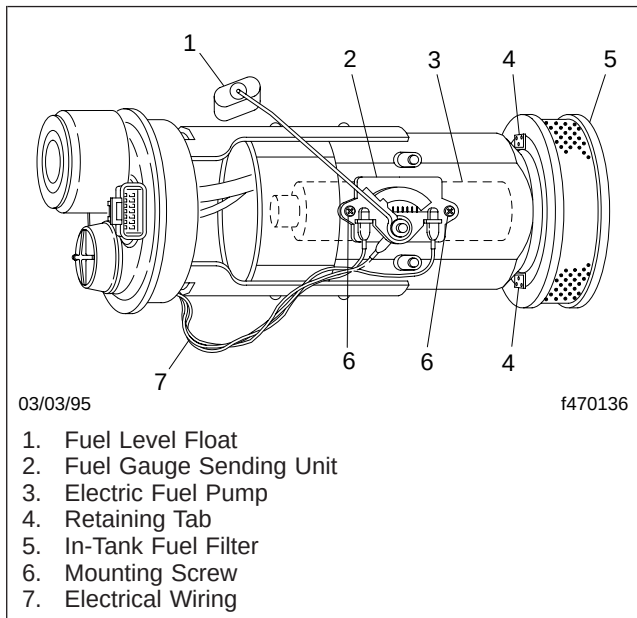

Fig. 4, Fuel Pump Module (side view)
- 6.4 Remove the fuel pump module from the fuel tank. See Fig. 4.
- 7.1 Use an appropriate tool to pry back the retaining tabs. See Fig. 4.